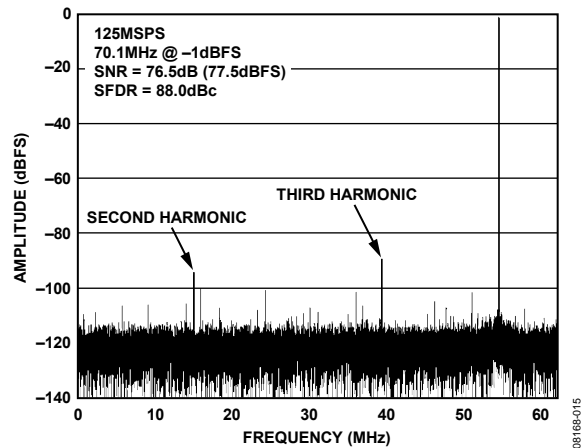

Figure 16. Typical FFT, AD9268/AD9258
- Click the disk icon within the **Graph** window to save the performance plot data as a .csv formatted file. See Figure 16 for an example.